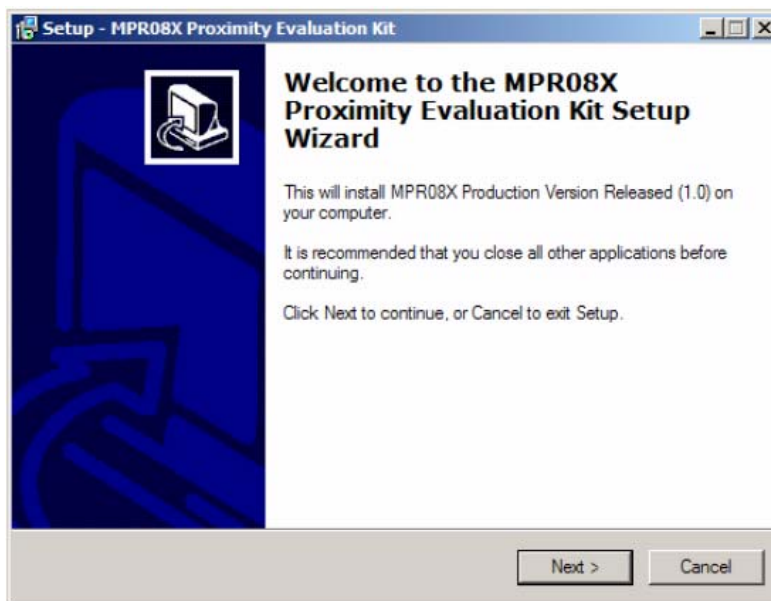

Figure 1. Setup – MPR083 Proximity Evaluation Kit
1. Run the "Setup MPR08X Proximity Evaluation Kit.exe" from the contents of the evaluation kit CD. This will run the setup and installation wizard for the PC application (Figure 1).